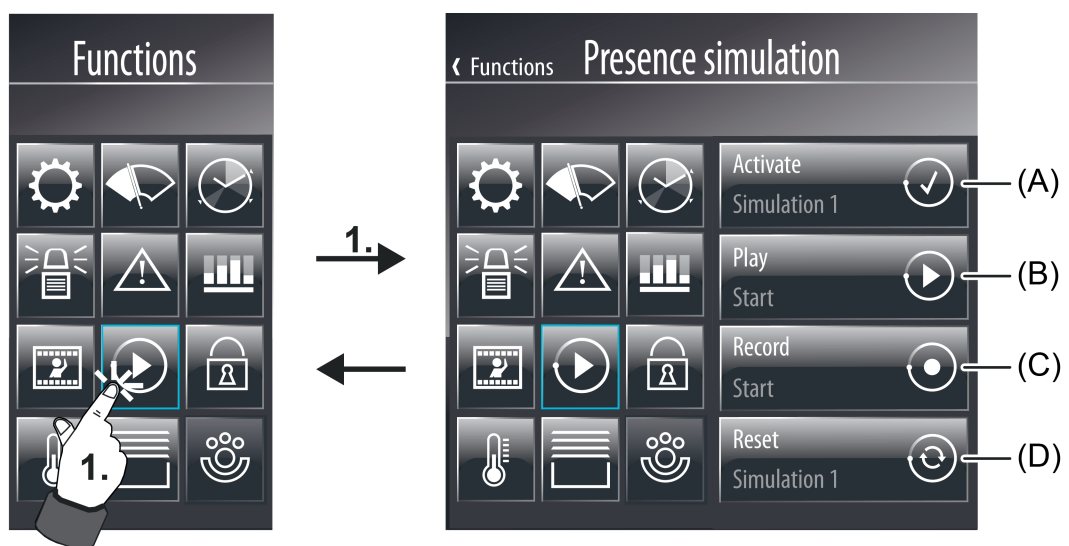

Figure 96: Example of a display page of the presence simulation in the function view (right)
As soon as the display page of the presence simulation is opened, 4 control surfaces that execute various functions appear in the display (figure 96).
An entire simulation can be reset if required. At the same time, all function assignments and the saved telegrams are deleted. The simulation is reset when the operating area (D) is pressed on the page of the presence simulation (figure 96).